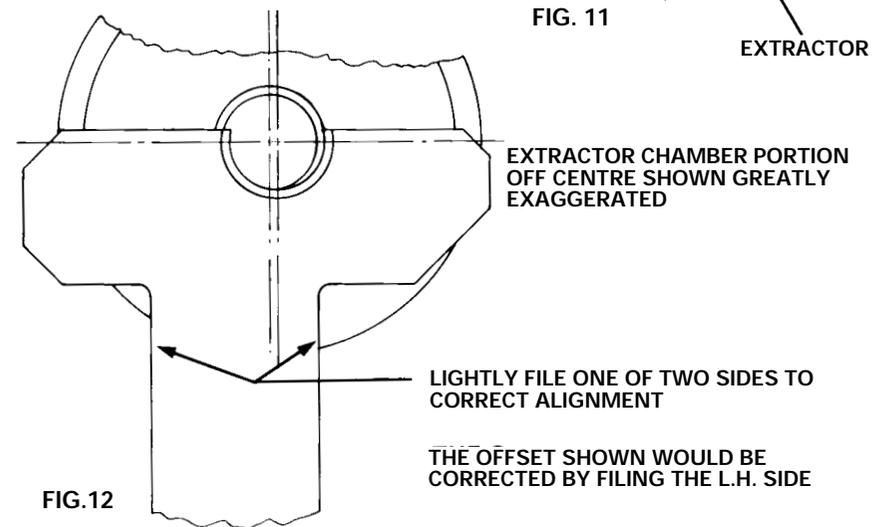

FIG. 12
- (b) If the chamber portion is not central to the complete form of the chamber and breech block (see Fig. 12) even when any side clearance has been taken up by powerload insertion, then lightly file one of the two sides of the extractor boss to correct this alignment.